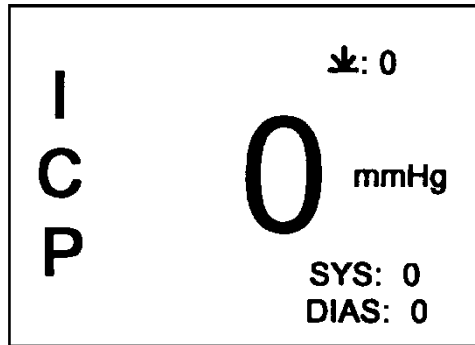

Figure 31
- 14.6.8 Use the arrow keys to set the HI limit to 25, then press MENU. Verify that the "SET LO ALARM" screen appears as shown in Figure 31, with the displayed limit = 0.